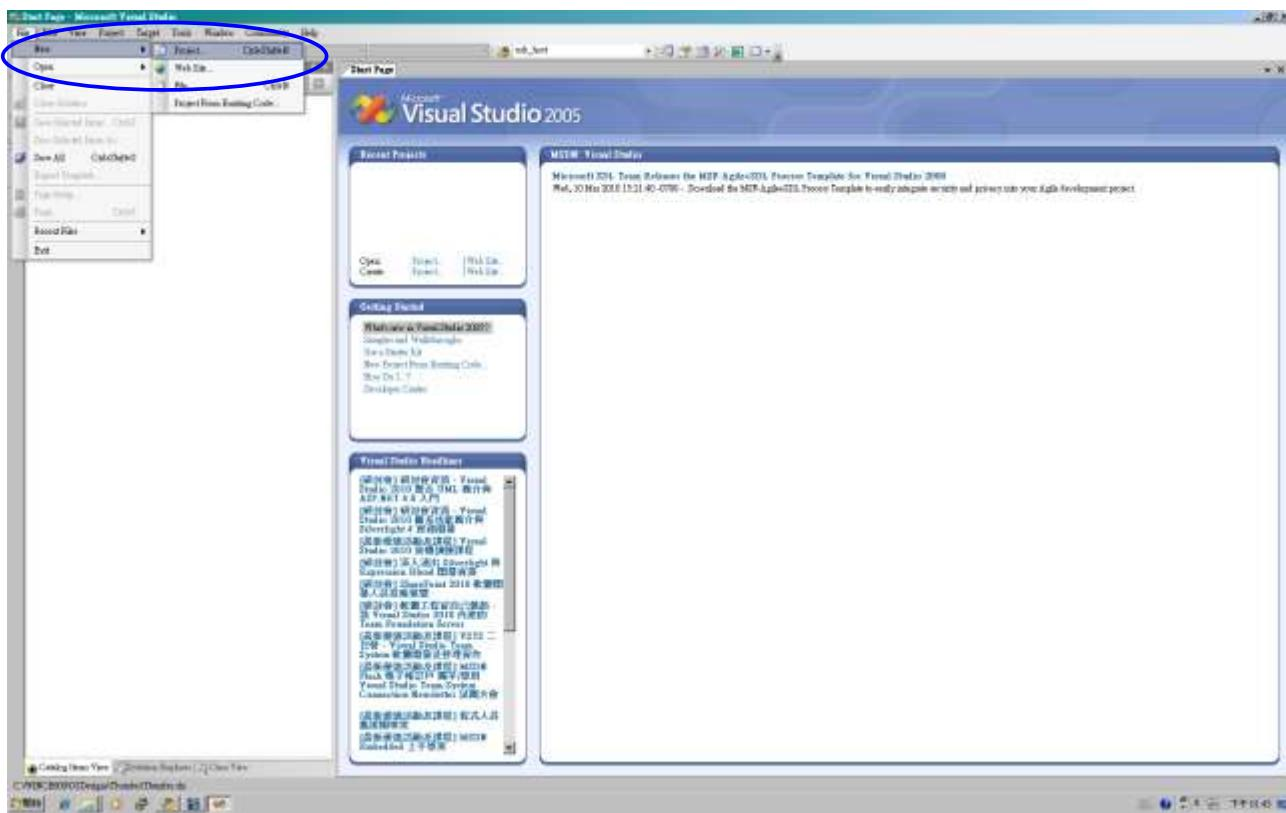

Figure 123
- Click “File → New → Project...” (See Figure 123)